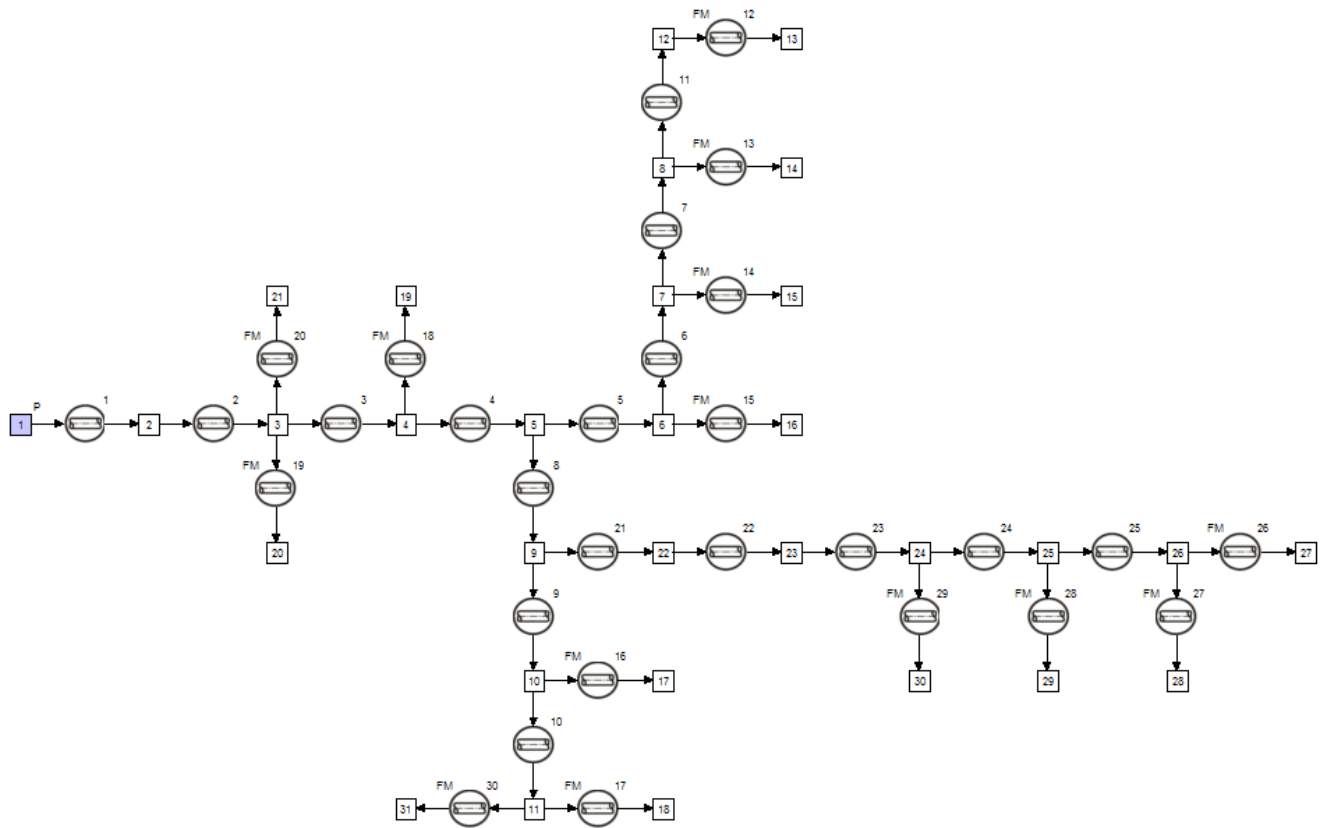

Figure 2: Flownex network.
The Flownex model of the system is shown in Figure 2. The distribution ducts are modeled in Flownex using the Pipe element. A fixed mass flow of 0.02 kg/s is specified on each outlet Pipe element as specified in the problem statement. The inlet boundary pressure is specified on the inlet node (Node 1). The geometry and loss factors for each pipe are specified on the relevant Pipe element.
*Table 1* gives the required orifice ratios for each parallel pipe determined by Flownex. The pipe numbers coincide with the numbers given in *Figure 2*.